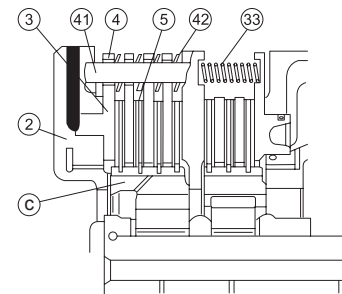

Figure 3-21
The engagement of clutch is realized by driving piston (3) through the pressure from the control valve. (See Figure 3-21) (See Figure 3-21)